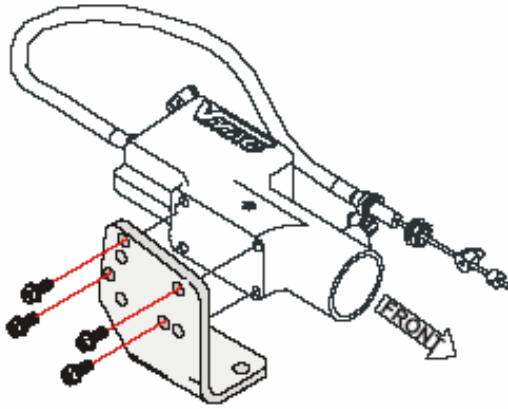

Figure 4.2
- ☐ Mount the throttle to the bracket using 1/4 x 5/8 inch screws, with the VMAC logo to the top and the throttle pull cable facing towards the rear of the truck (Figure 4.2).